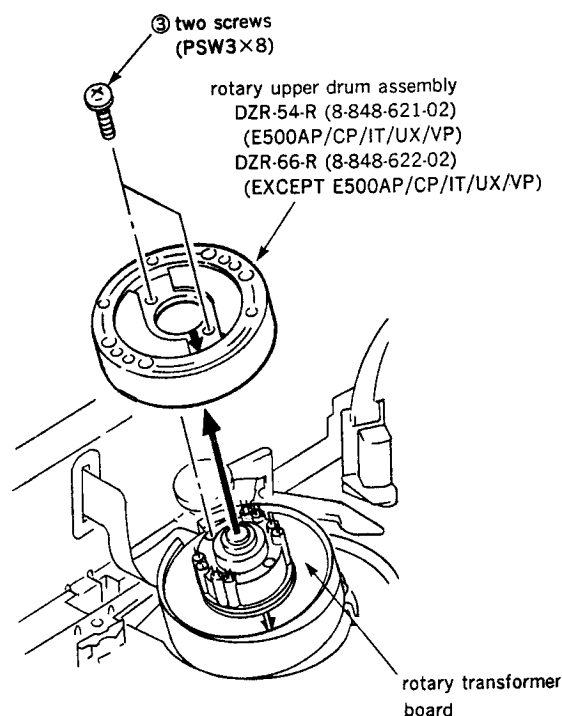

Fig. 3.
- 1) Remove the screw ① (P3×8).
- 2) Remove the shaft ground assembly ②.
- 4) Remove the screws ③ (PSW 3×8) and tape out the rotary upper drum assembly in the direction of arrow. (See Fig. 3.)